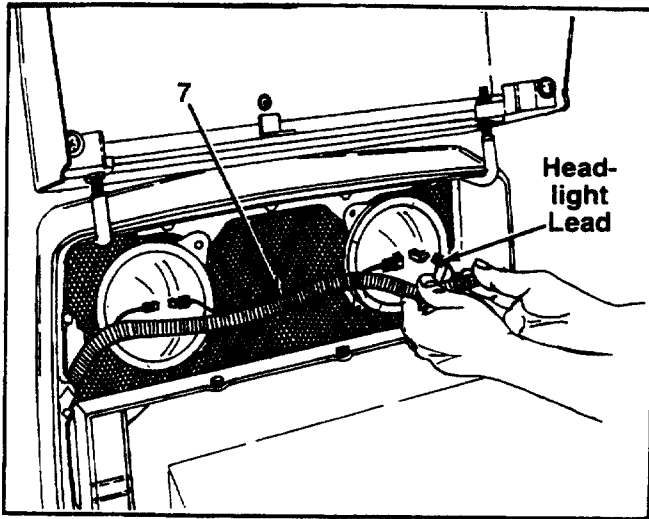

FIGURE 4.
5. Disconnect the four wire leads at headlights. See figure 4.